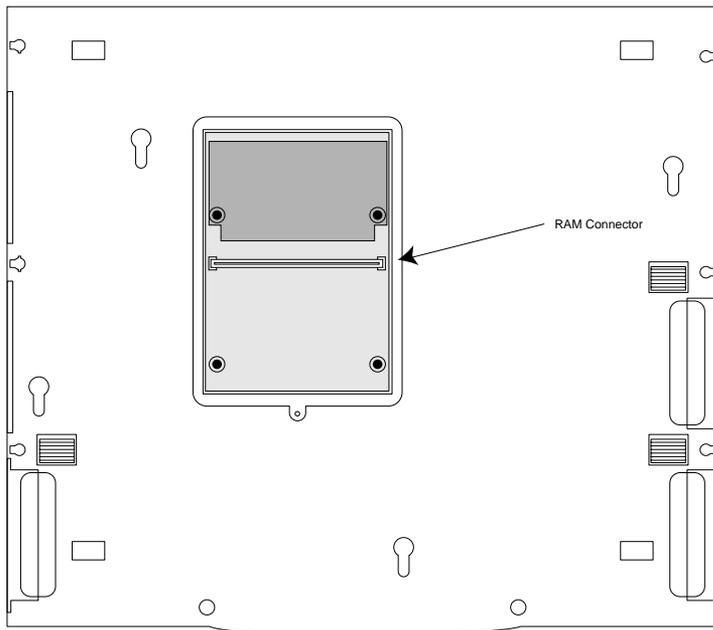

Figure 3-11 Installing the Memory Module
5. Insert the new module in the available slot (see Figure 3-11) pressing gently but firmly until it is fully seated in the connector and the locking plastic standoffs.